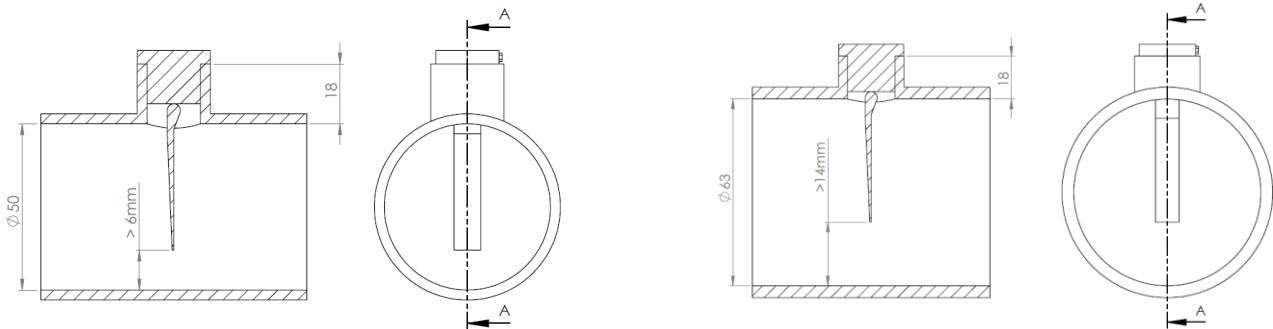

Figure 76 - Flow Switch Paddle Length Adjustment
- There must be a 5 mm (0.2") minimum gap between end of the paddle and opposite pipe wall (see Figure 76).